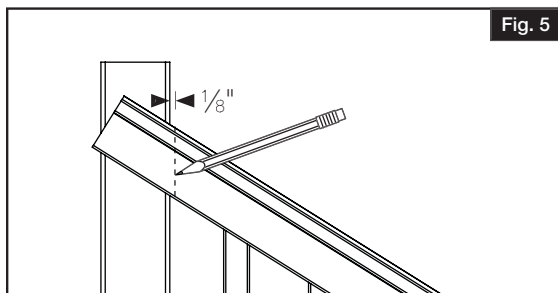

Fig. 5
- Trace the post onto each rail (both ends of top and bottom rails). Make four marks in total being sure to mark $\frac{1}{8}$ " shorter to allow for expansion (Fig. 5).